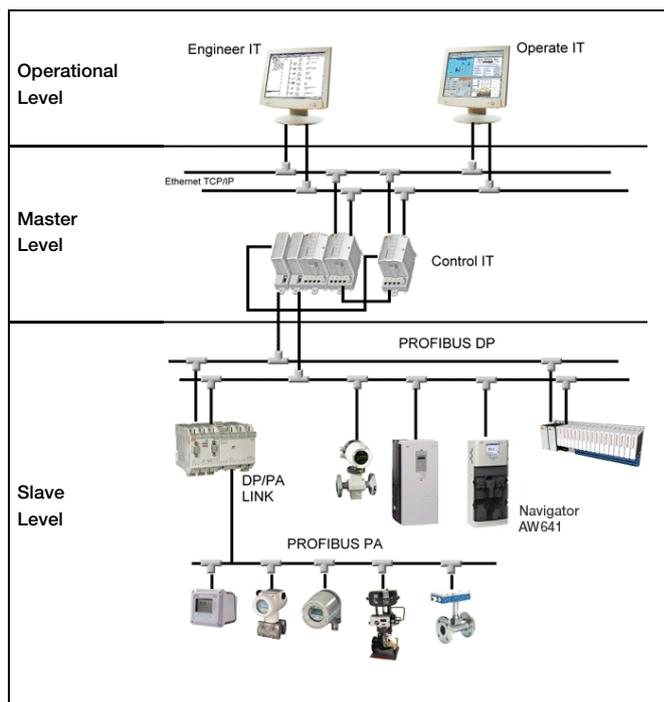

Fig. 2.1 Typical Profibus Network
2.1 Installation Overview – Fig. 2.1